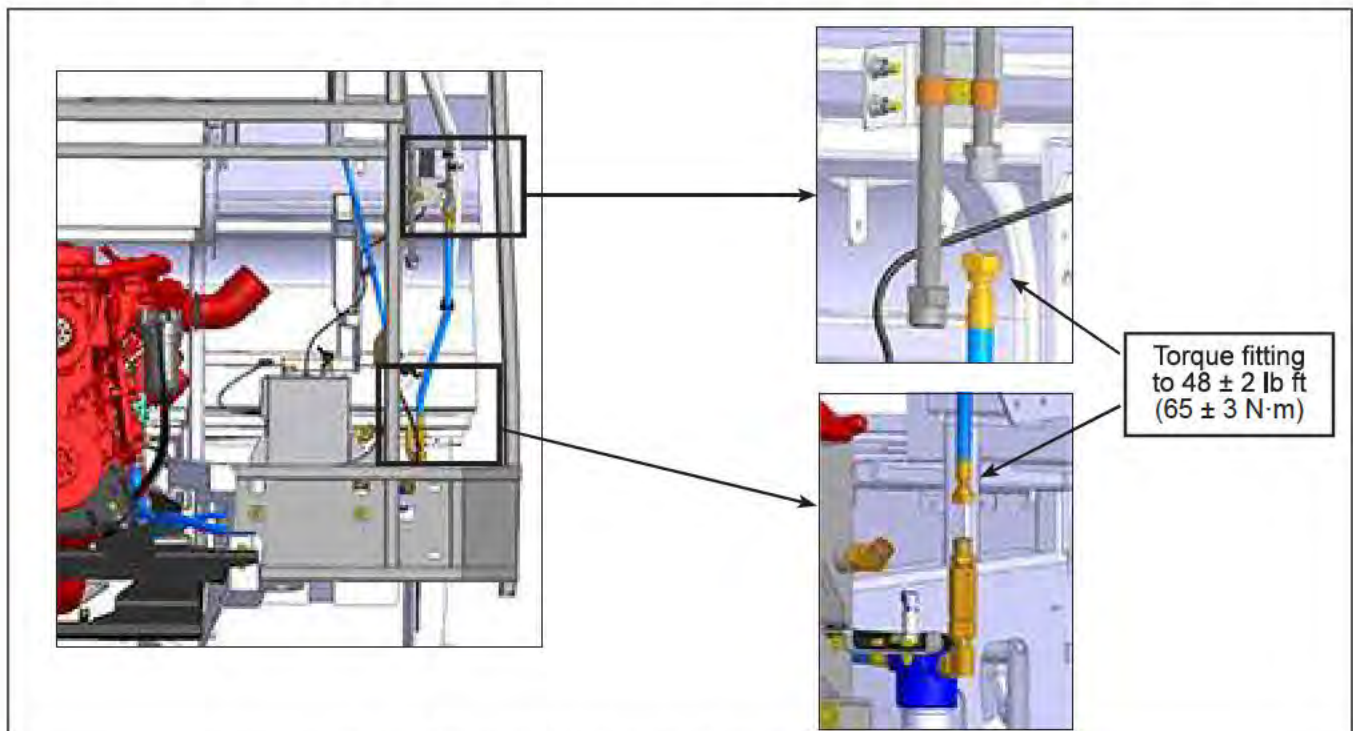

Figure 3 - N95740-37 Hydraulic Hose Fitting Torque Value
- 2.5. Install a new N95740-37 hydraulic hose and tighten both fitting. See Figure 3 for torque value.